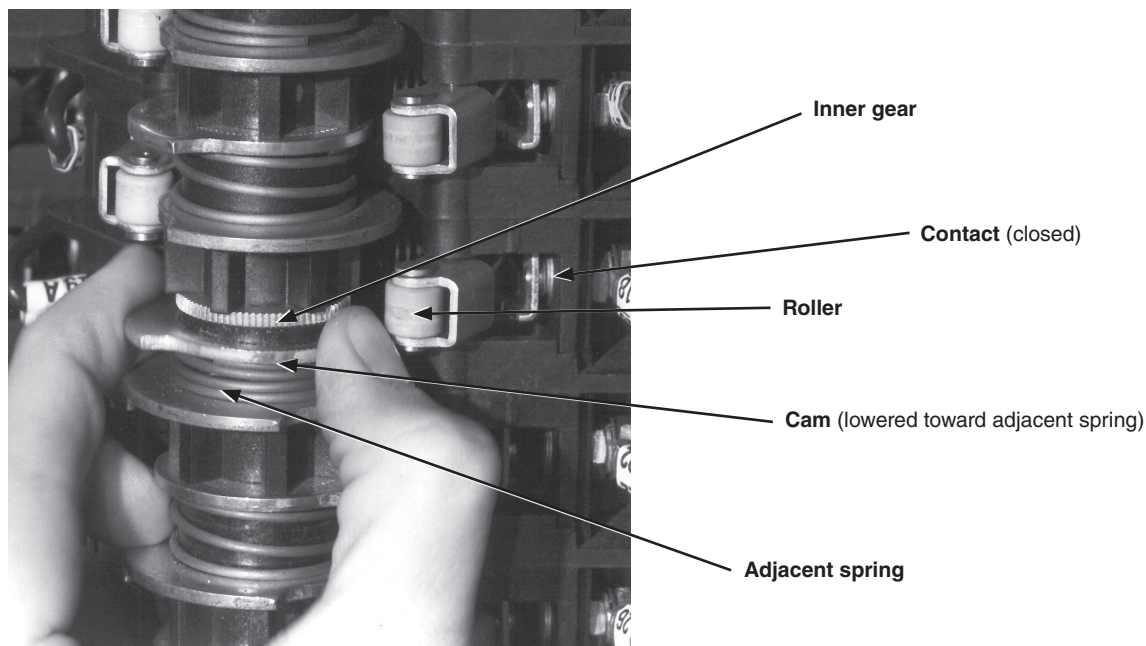
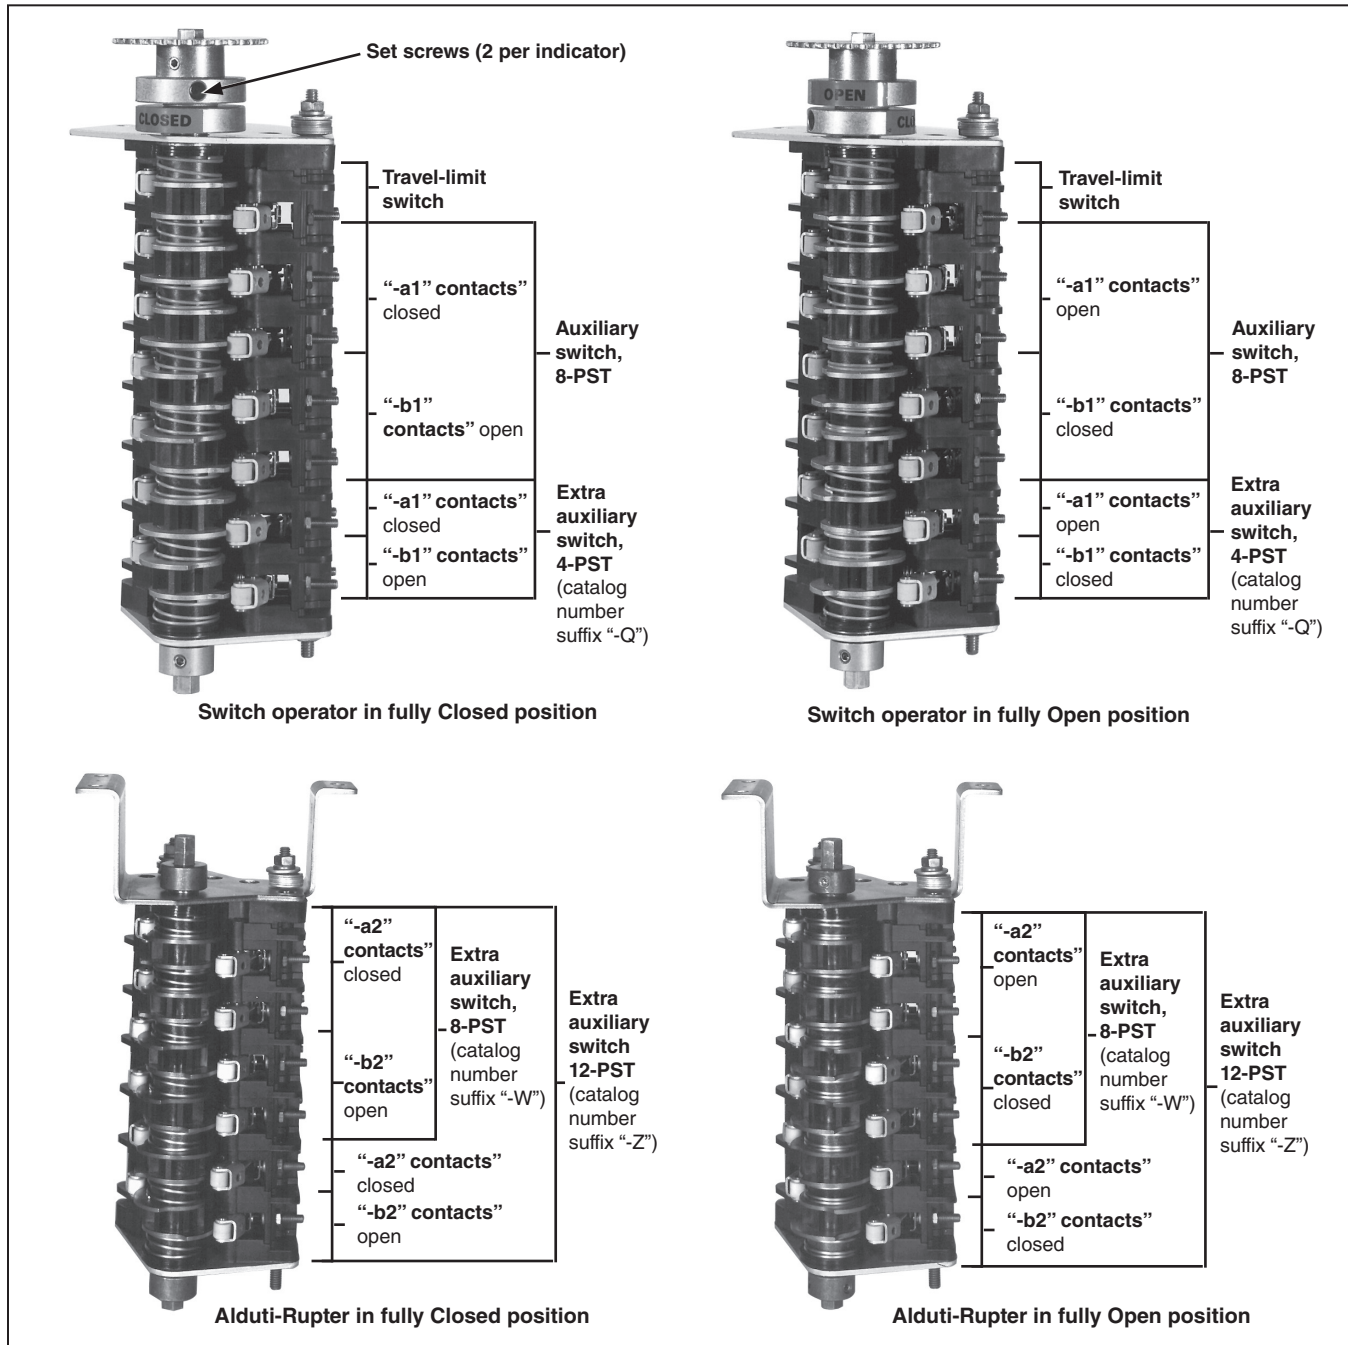
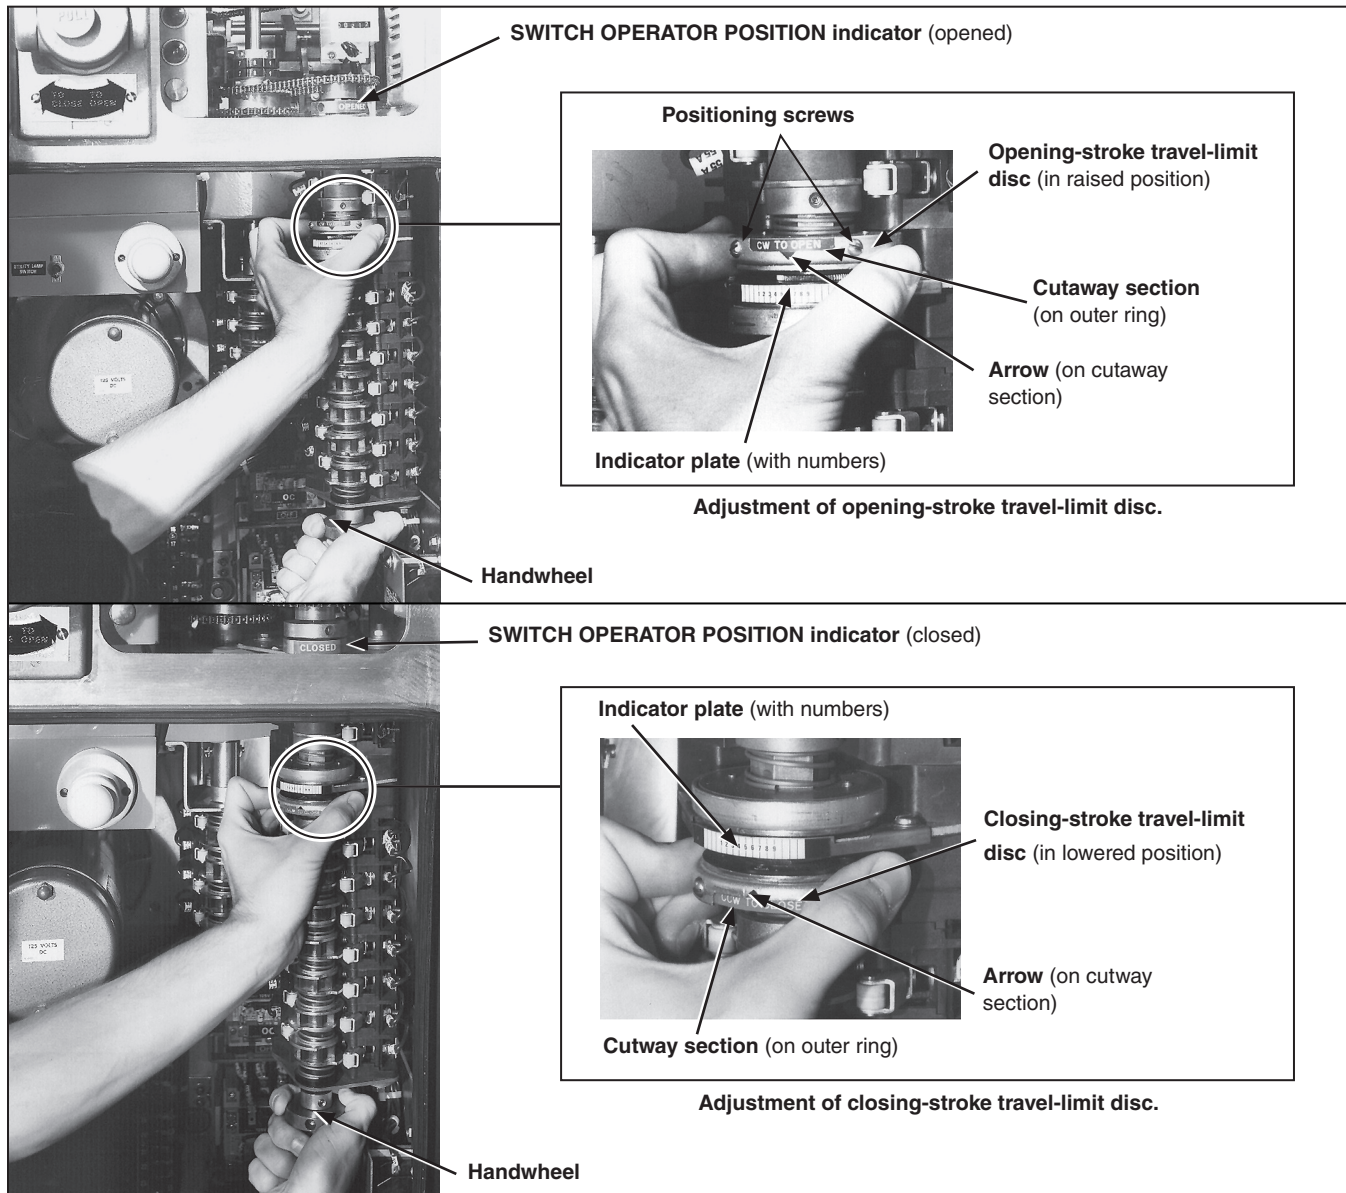

Figure 13. Adjustment of cams on auxiliary switch.
Figure 14. Standard contact configurations.
Figure 15. Adjustment of travel-limit discs.
Conversely, with the switch operator in the **Closed** position, the “a1” contacts are closed and the “b1” contacts are open. A contact is closed if its roller is disengaged from a cam and, conversely, a contact is open if its roller is engaged by a cam. See Figure 13 and Figure 14 on page 24.
If necessary, adjust the cams as described in “Adjusting the Travel-Limit Discs After Motor Direction Reversal” section on page 19 so the auxiliary-switch contacts are in the desired **Open** or **Closed** position (i.e., the cam engaged with the roller, or the cam disengaged from the roller). See Figure 14 on page 24.
Adjustment of the auxiliary-switch contacts for other than the “standard” configuration is left to the user. The motor circuit fuse holder should be removed when adjusting these contacts. (Switch operators having catalog numbers with the suffix “-Q” are equipped with an extra auxiliary switch, terminals 27 through 34, having four contacts—two “a1” and two “b1”—that may be adjusted as described in the “Adjusting the Travel-Limit Discs After Motor Direction Reversal” section on page 19). See Figure 13 and Figure 14 on page 24.
Therefore, if adjustment of the suffix “-W” or “-Z” auxiliary switch is needed, refer to in the “Adjusting the Travel-Limit Discs After Motor Direction Reversal” section on page 19). See Figure 13 on page 23 and Figure 14 on page 24.
the direction displayed in the cutaway section on the outer ring of the travel-limit discs. See Figure 15 on page 28. (The direction of rotation of the travel-limit discs is always the same as the direction of rotation of the output shaft.)
- (e) Should the direction of rotation of the travel-limit discs noted in Step 1(c) be the opposite to the direction displayed in the cutaway section on the outer ring of the closing-stroke travel-limit disc, remove the positioning screws on the outer ring of the closing-stroke travel-limit disc. See Figure 15 on page 28. Rotate the outer ring until the desired direction is displayed in the cutaway section. Replace the positioning screws.
- (c) Grasp the handwheel and turn it to the extent possible in a direction opposite to the direction the output shaft rotates to open the Alduti-Rupter Switch. See Figure 15.
- (b) Grasp the handwheel and turn it to the extent possible in a direction opposite to the direction the output shaft rotates to close the Alduti-Rupter Switch. See Figure 15 on page 28.
In each position, the corresponding position indicator should be readily visible from the front of the enclosure. If adjustment of either position indicator is necessary, remove the motor-circuit fuse holder, loosen the two set screws on the position indicator, and rotate the position indicator to the desired position. Re-tighten the set screws. See Figure 14 on page 24 and Figure 15 on page 28.